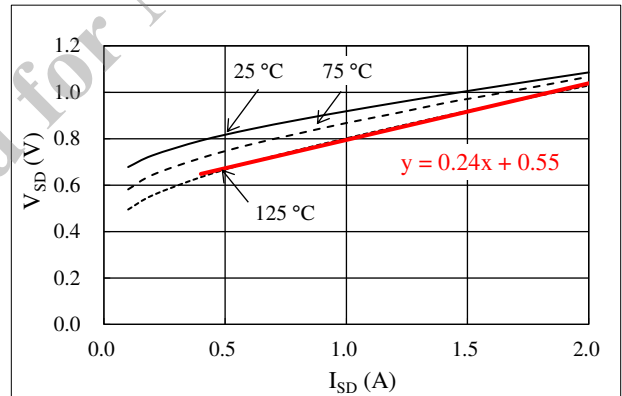

Figure 14-3. Linear Approximate Equation of  $V_{SD}$  vs.  $I_{SD}$
Steady-state loss in the body diode of a power MOSFET can be computed by using the  $V_{SD}$  vs.  $I_{SD}$  curves, listed in Section 15.3.1. As expressed by the curves in Figure 14-3, a linear approximation at a range the  $I_{SD}$  is actually used is, obtained by:  $V_{SD} = \alpha \times I_{SD} + \beta$ . The values gained by the above calculation are then applied as parameters in Equation (9), below. Hence, the equation to obtain the body diode steady-state loss,  $P_{SD}$ , is: